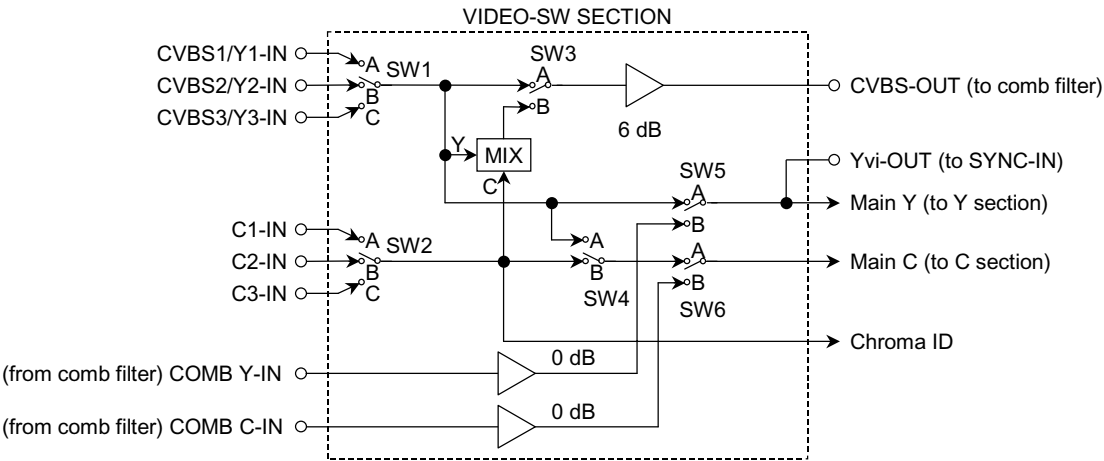

Figure 1 Signal Route at Video SW Section
- (1) "AUTO-SW" = (1) Manual Select
- In video SW section, input signal is selected by the BUS as Figure 1 and Table 1. Mainly, CVBS-OUT (pin 3) is used for the comb filter input, and Yvi-OUT (pin 11) is used for synchronization (pin 2). Besides, on chroma line from video SW to main route, the peak detection is done during the burst period. The result is responded to the Read BUS data, C ID.